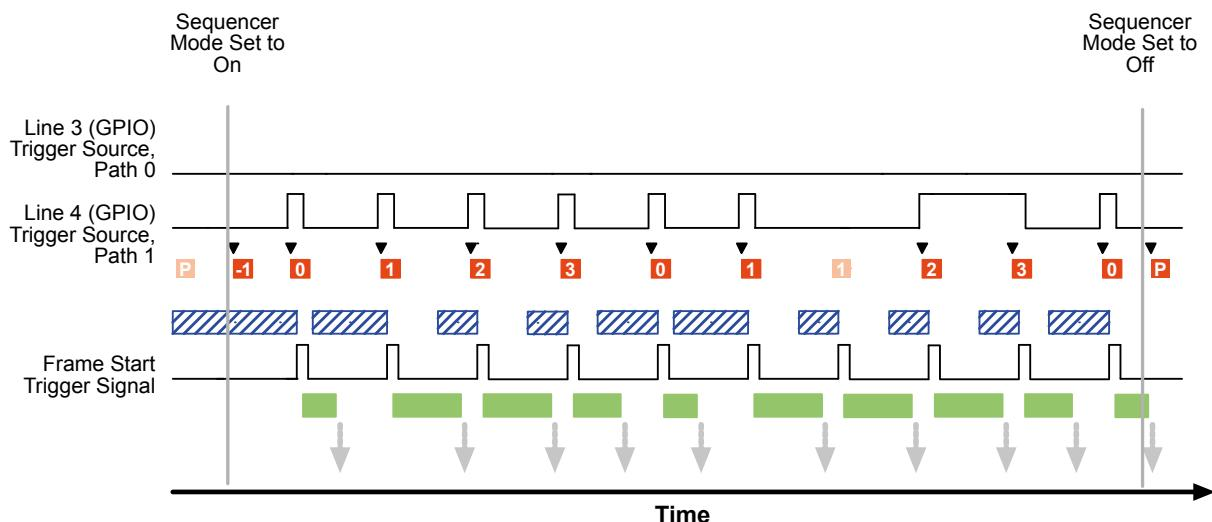

Fig. 88: Use Case 1 - Synchronous Cycling Through Sequencer Sets According to Path 1, No Reset
- As illustrated in Figure 88, the camera must not acquire images when the sequencer feature is enabled. Setting the sequencer mode to On will enable the sequencer feature. When a frame start trigger occurs the sequencer set configured as Sequencer Set Start will be loaded into the active set and will be used for the first image acquisition. Sequencer Set Start will always be sequencer set 0 (see Section 7.7.2.2 on page 224).
Use case one is illustrated in Figure 88 on page 240 and assumes that the following sequencer-related parameter values are set.